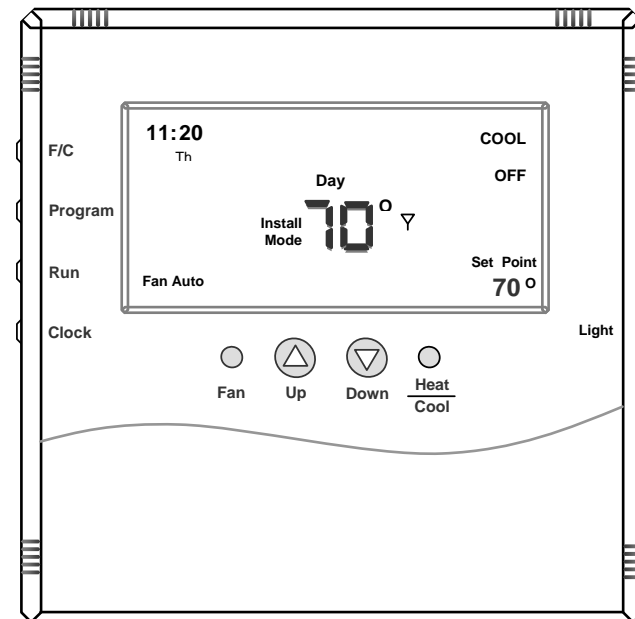

Figure 12 – unlinked Display
*A thermostat that does not have a node linked to it will display “Install Node” when in normal operation mode (Figure 12). Once a node is linked to the thermostat, this message will no longer be displayed.*